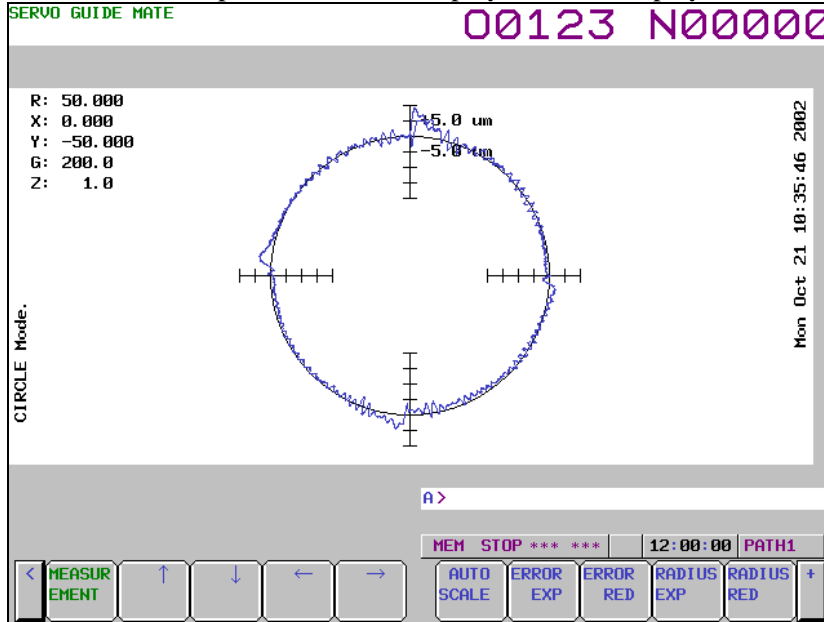

Fig. 1.9.1.3 (f)
- 29 When the measurement is completed, the wave display screen is displayed as shown Fig. 1.9.1.3 (f).